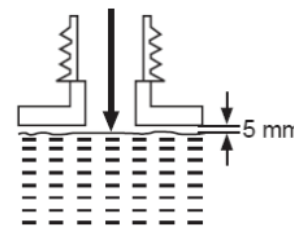

**Fig. 13**
- Place the product on a stable, level surface with the oil tank cap (17) facing upward. We recommend laying a non-flammable sheet under the product.
- Unscrew and remove the oil tank cap (17) (Fig. 13).
- Check the oil level window (16) prior to start-up and regularly during operation. Refill oil when the oil level is close to the bottom of the oil level window (16) (Fig. 13).
- Wipe up spilled lubricant with a soft cloth and refit the oil tank cap (17).